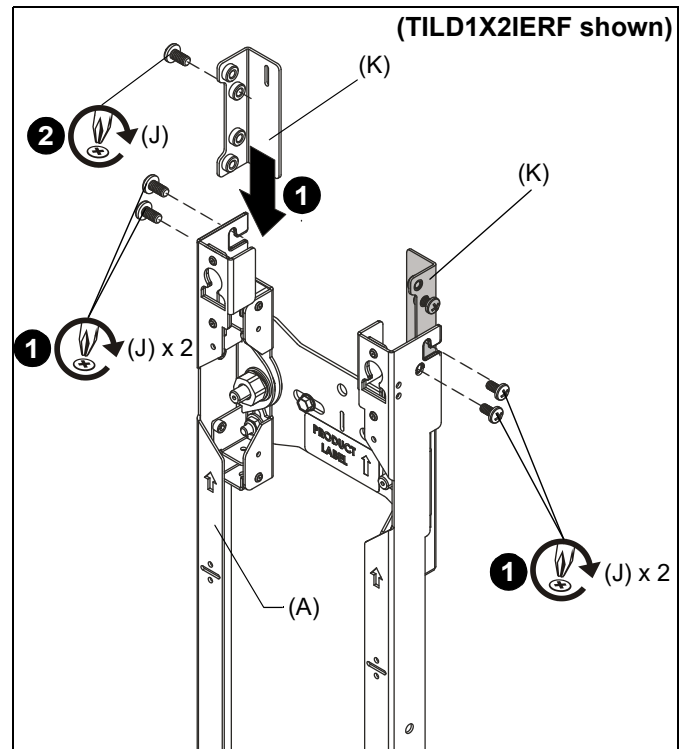

Figure 5
1. Slide the vertical connector (K) down from the top of the mount, and attach with two 1/4-20 x 1/2" Phillips pan head screws (J) per vertical connector. (See Figure 5)
2. Loosely install one 1/4-20 x 1/2" Phillips pan head screw (J) in the lower screw hole at the top of each vertical connector (K). (See Figure 5)